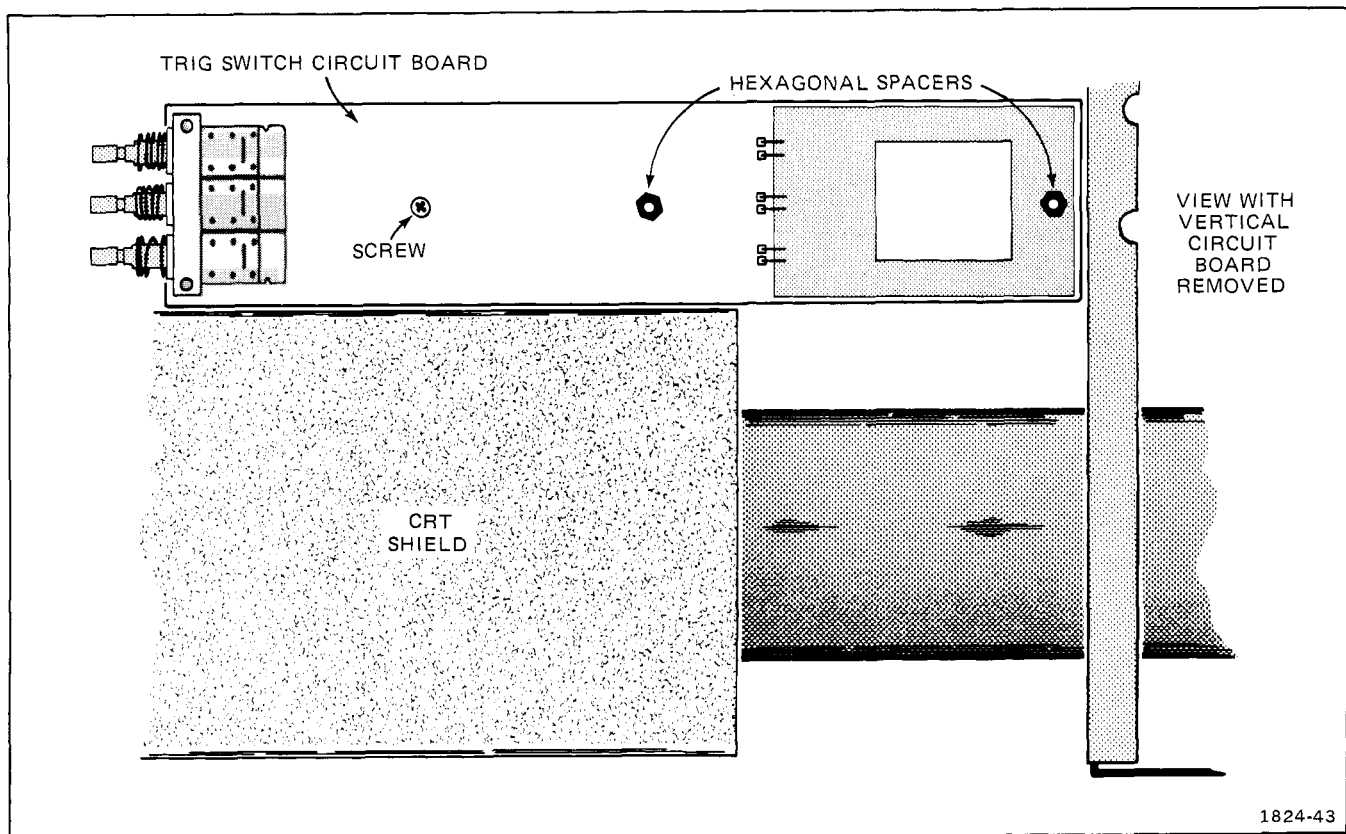

Fig. 4-15. Location of screw and spacers holding Trigger circuit board.
b. Remove 2 hexagonal spacers and 1 screw (see Fig. 4-15).